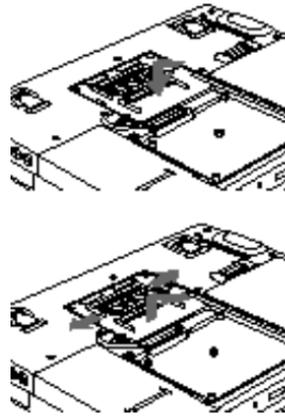

Figure 4-15 Installing/Removing a Memory Upgrade Module
on the module should be on the right with the part side up and the connector pointing towards the back of the notebook and aligned with the notch in the connector inside the compartment. (Figure 4-15.)
2. Pull clips sideways from each side of the memory upgrade module which you wish to remove.(Figure 4-15).